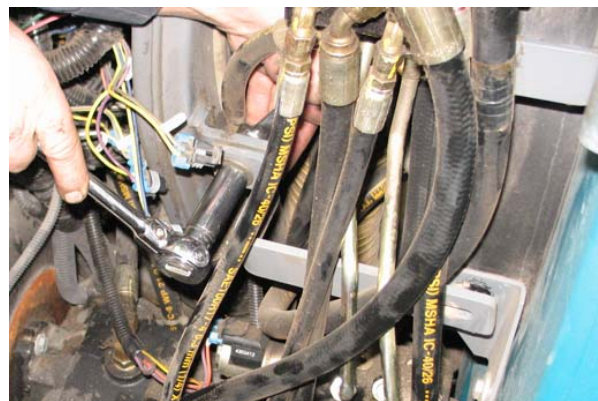

FIG. 4
3. Remove the support bracket. Set the support bracket and hardware aside. (Fig. 4)